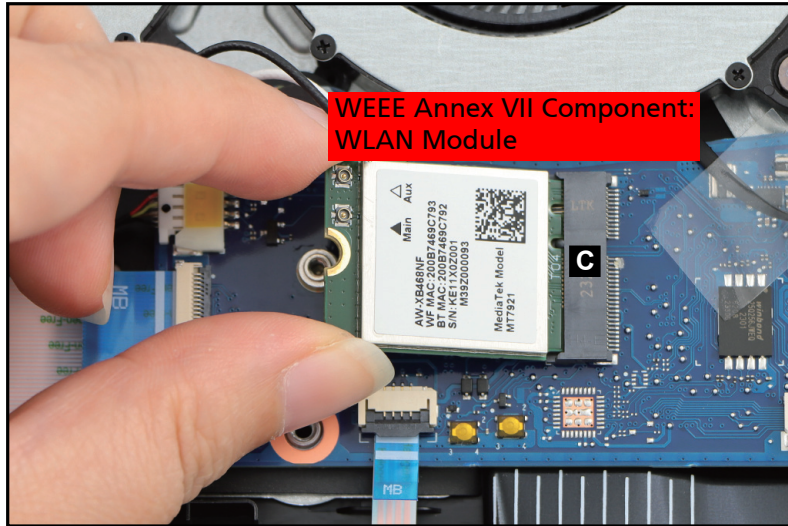

Figure 1-17. WLAN Module Removal
4. Disconnect the WLAN module from the mainboard connector (C) (Figure 1-17). Then remove the WLAN module.